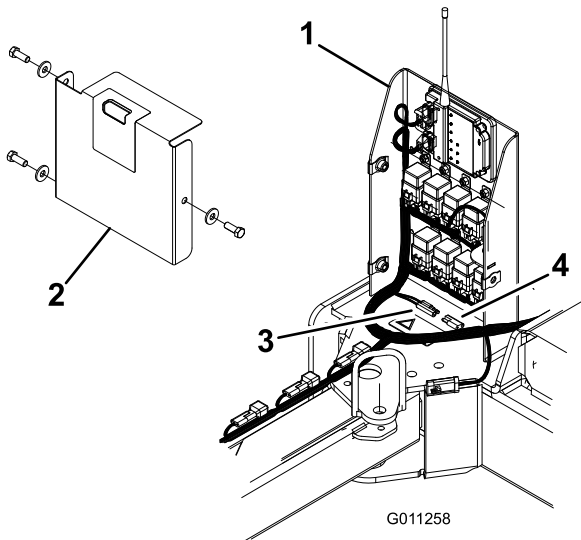

Figure 35
- Remove the (3) screws and washers securing the cover to the electrical box and remove the cover (Figure 35).
- Remove the cap from the connectors on the orange and red wires in the electrical box (Figure 35).